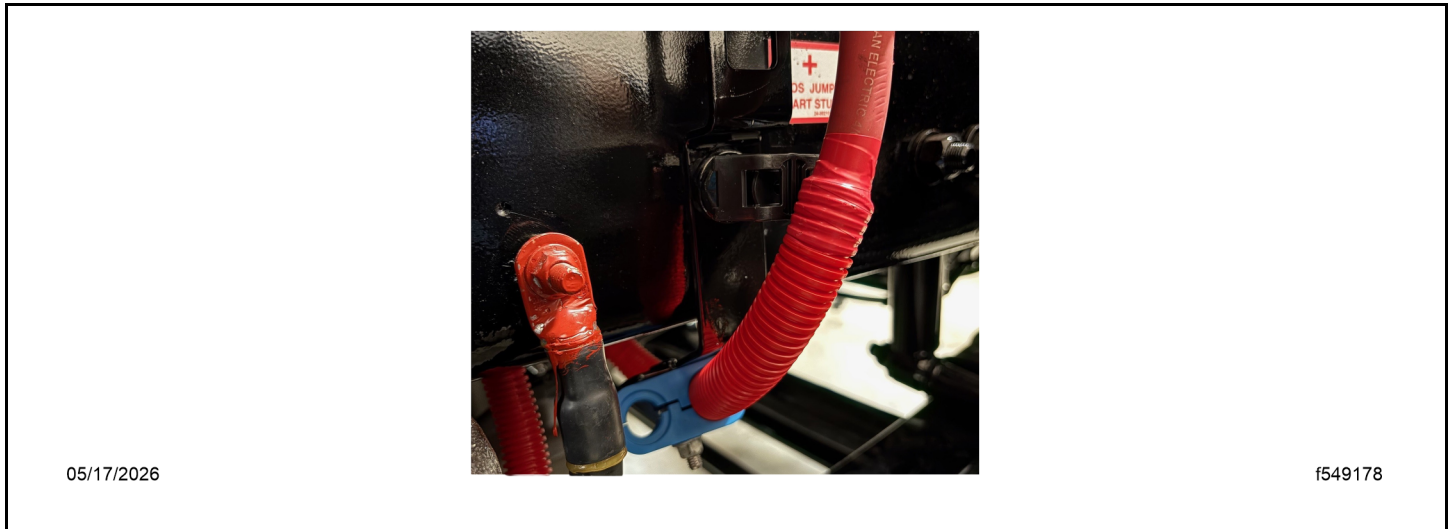

Fig 66, Routing Over the Tie Block
29. Install the 5/8-inch (16-mm) tie block (23-13805-062) on the bottom isolator bracket frame bolt so the cable routing can be set passing by it. See Fig. Fig. 66.